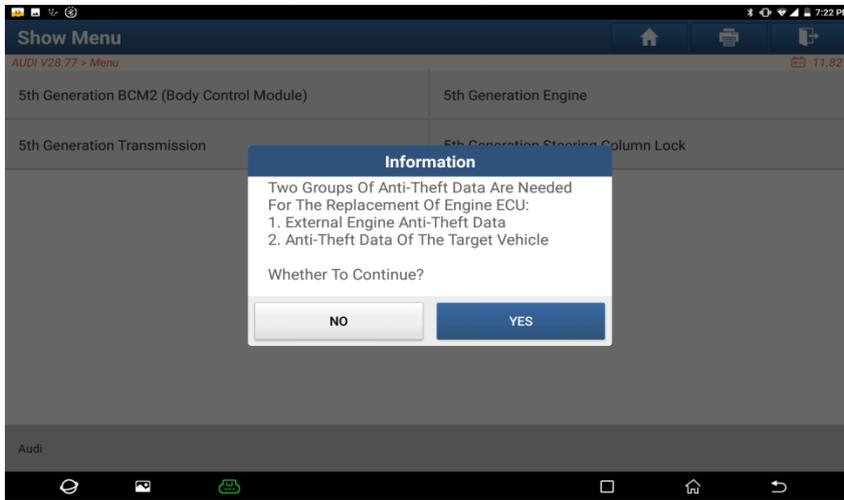

Figure 8
3.2.1.7 Click [5th Generation Engine], as shown in Figure 8.